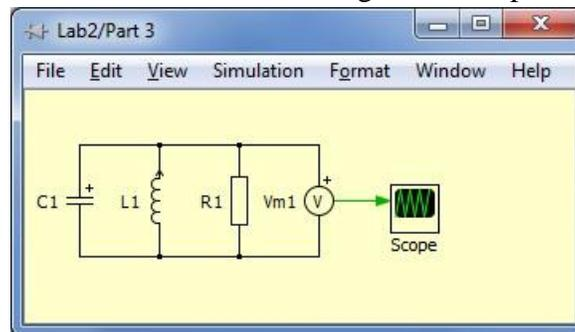

Figure 9: PLECS Circuit 3
10. Create the circuit shown in figure 9 in a new PLECS block. The circuit involves one Resistor, Capacitor, and Inductor in parallel. Set the resistor to  $330\Omega$ , the capacitor to  $10\mu\text{F}$ , and the inductor to  $0.1\text{H}$ . Inside the PLECS block, place a voltage probe across the capacitor. Set the initial value of the inductor to  $0\text{A}$  and the initial voltage on the capacitor to  $10\text{V}$ .